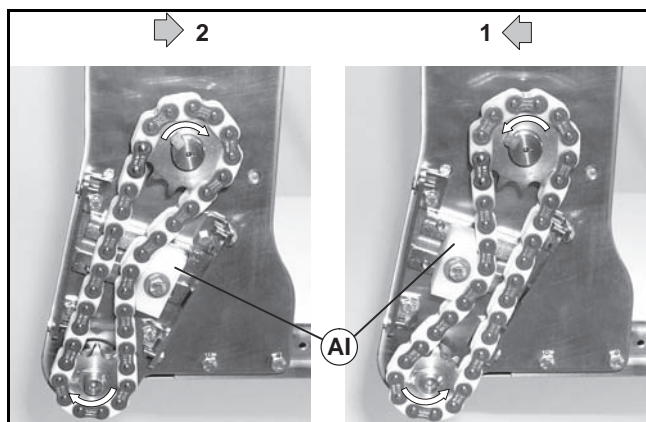

Figure 25
- Loosen four set screws (AH) and (AK).
- Remove timing chain (AG) and sprockets (AE and AF) from conveyor input shaft (U) and gearmotor output shaft (AJ). Make sure to retain sprocket keys.
- Depending on conveyor belt travel (direction 1 or 2 of Figure 25), locate timing chain tensioner (AI) as shown. Do not tighten tensioner screw.